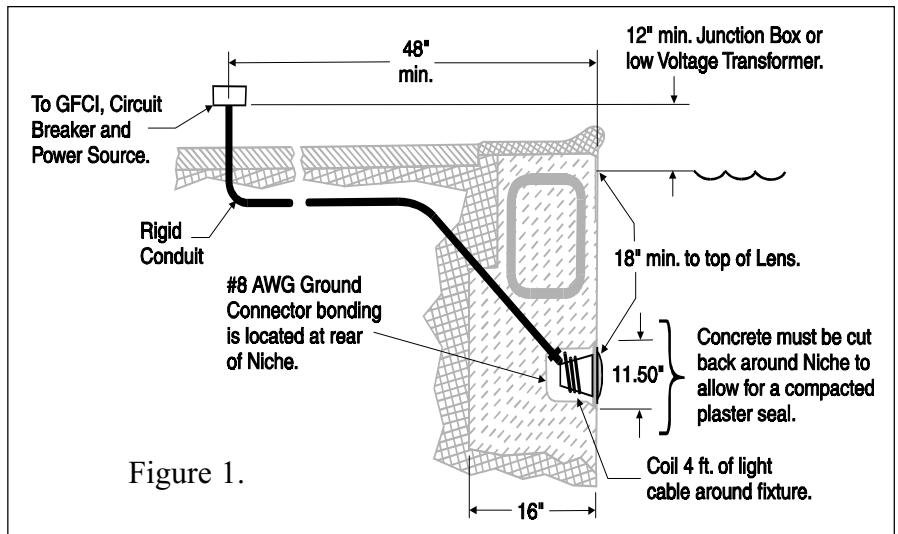

Figure 1.
b. The Junction Box (or, for 12 volt models, the low voltage transformer) is located at least 12 inches above water level and at least 48 inches from the edge of the pool, see Figure 1.
d. The wet niche is properly installed so that the top edge of the Underwater Light's lens is at least 18 inches below the surface of the water in the pool, see Figure 1.
e. The wet niche is properly electrically bonded and grounded via the No. 8 AWG ground connector located at the rear of the niche, see Figure 1.
5. Leave at least 4 feet of cord to coil around the light fixture, see Figure 1. This 4 feet of cord coiled around the light allows the light to be serviced after the pool is filled with water.